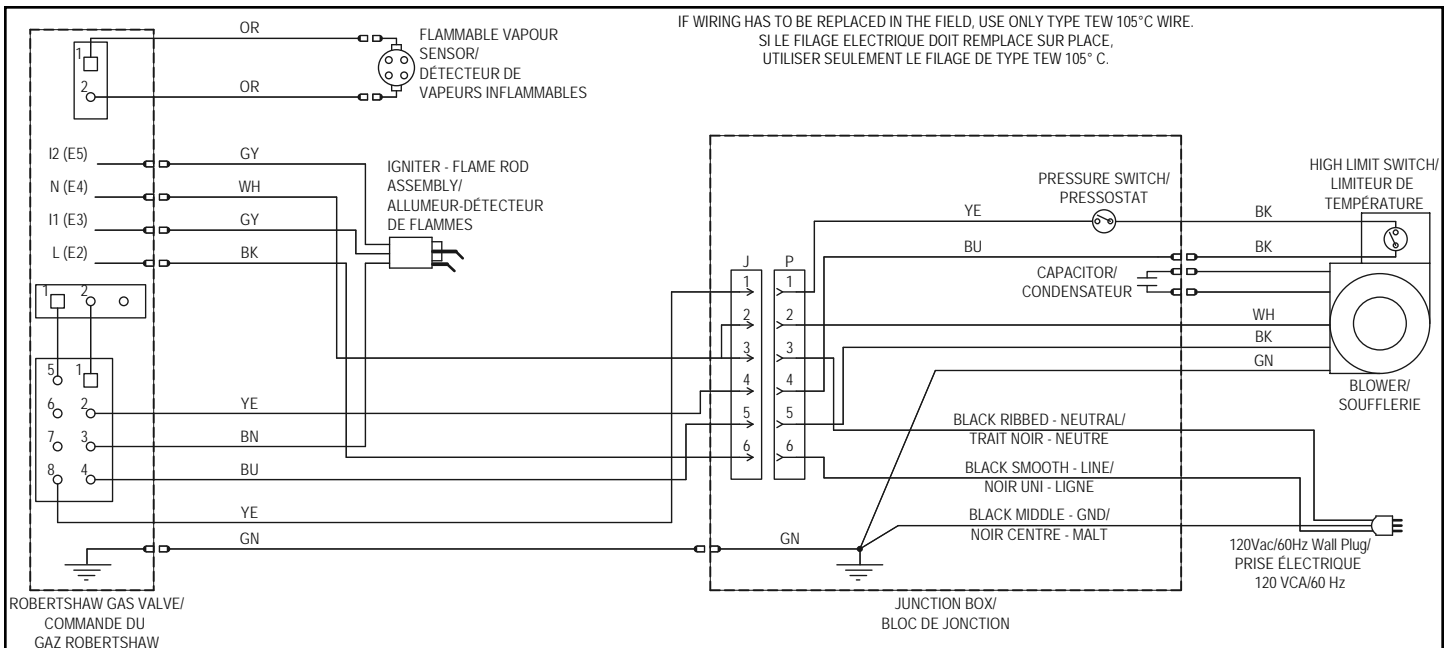
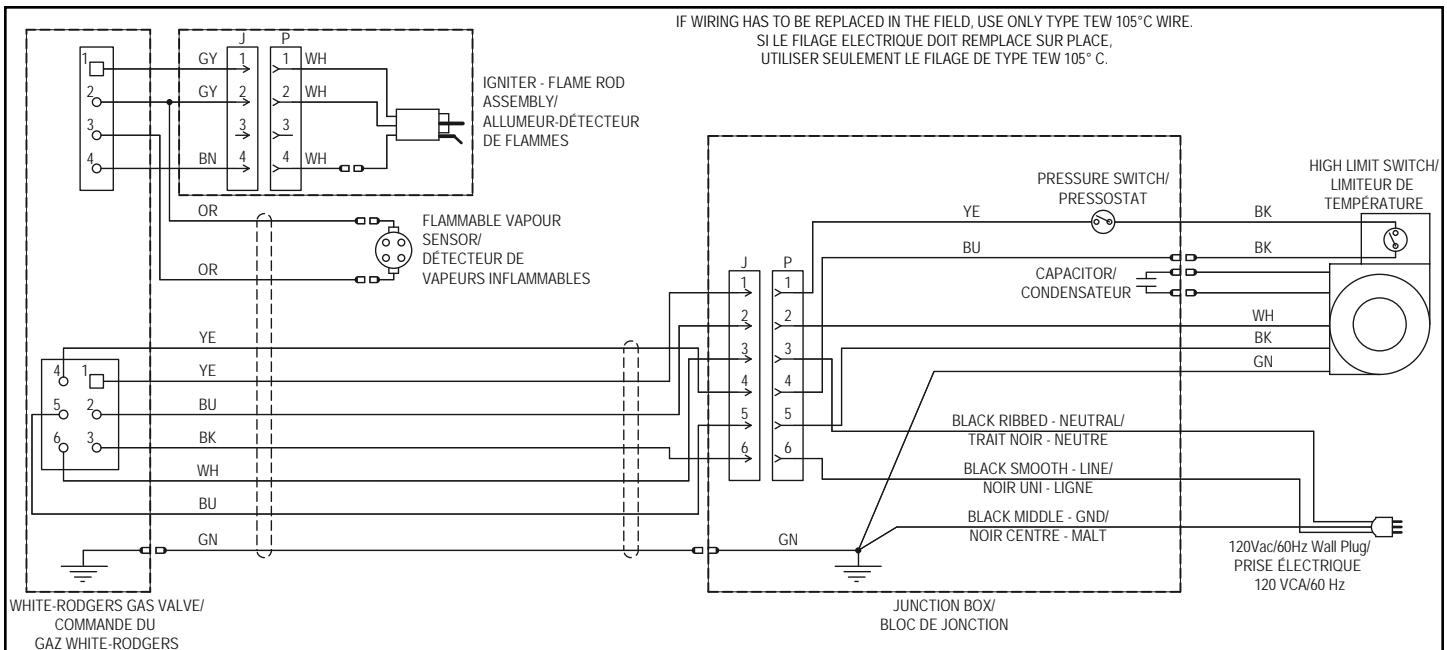

**Figure 33**
**Figure 35**
**Important:** The electrical controls used inside the gas control/thermostat of this water heater are polarity sensitive. Ensure the electrical supply is connected correctly in the receptacle box. Failure to connect correctly will prevent the unit from functioning properly (see Figure 33 (Honeywell), Figure 35 (Robertshaw), Figure 37 (White-Rodgers)). Before performing any electrical service work, label all wires to avoid connection errors. If wiring has to be replaced, use only **TYPE TEW 105°C** wire, (except igniter wires). If there is a problem with igniter wires, replace igniter assembly in its entirety. In locations where a sump pump failure, flooding or exposure to water may be present, a ground fault receptacle is recommended. **Important:** Do not use an extension cord to connect the water heater to an electrical outlet.